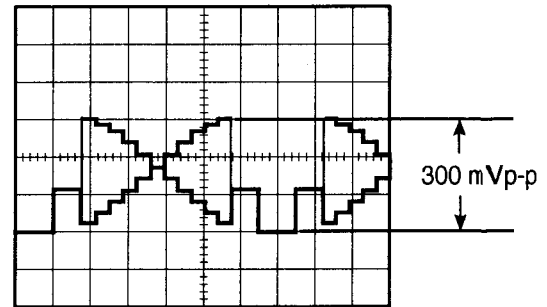

Fig. 4-2
- Set the LENS Iris so that the peak level of the Gray scale from the blanking level becomes 300mVp-p as shown in Fig. 4-2.